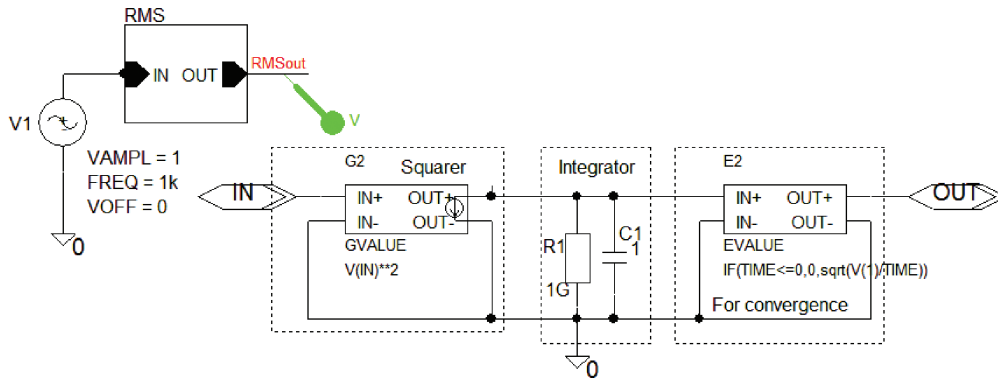
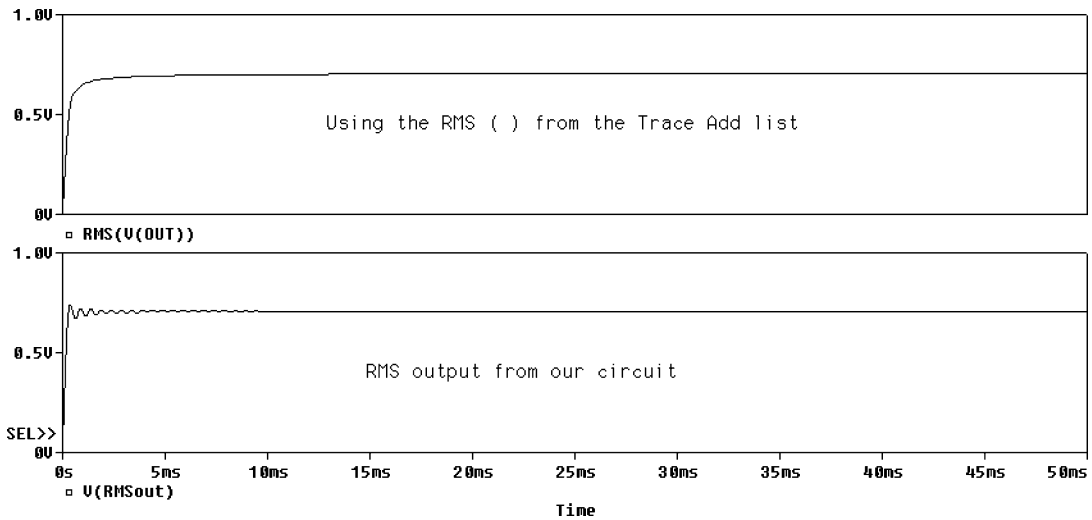

FIGURE 4.30: RMS meter in block form
FIGURE 4.31: Comparison of Probe function `RMS ()` to the RMS meter
- (3) The true RMS meter in Fig. 4.30 is constructed from **ABM** parts (**GVALUE** and **EVALUE**). Apply a 1 kHz, 1 V sinusoidal signal using a **VSIN** part. To square the input voltage, enter **EXP = V(in)*V(in), or (V(in)**2)** into the **GVALUE** part. The integrator is followed by an **EVALUE** part using the **IF then ELSE** statement as: **IF (TIME <= 0, 0, sqrt(V(1)/TIME))**. This avoids convergence problems, but also gets the square root of the voltage on the wire labeled 1. Run a transient analysis for 50 ms. Fig. 4.31 compares the RMS output to the probe function **RMS (V(RMSout))**. Both eventually settle down to the same output voltage of 0.707 V.
- (4) Repeat the previous exercise for a pulse waveform. The power of a pulse waveform is